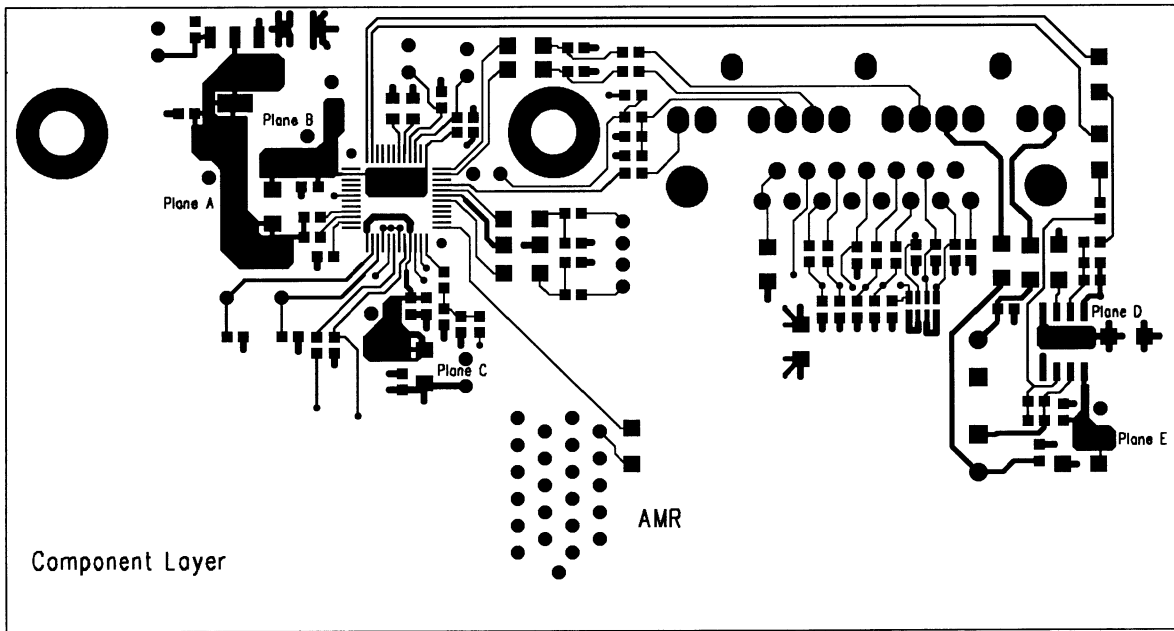
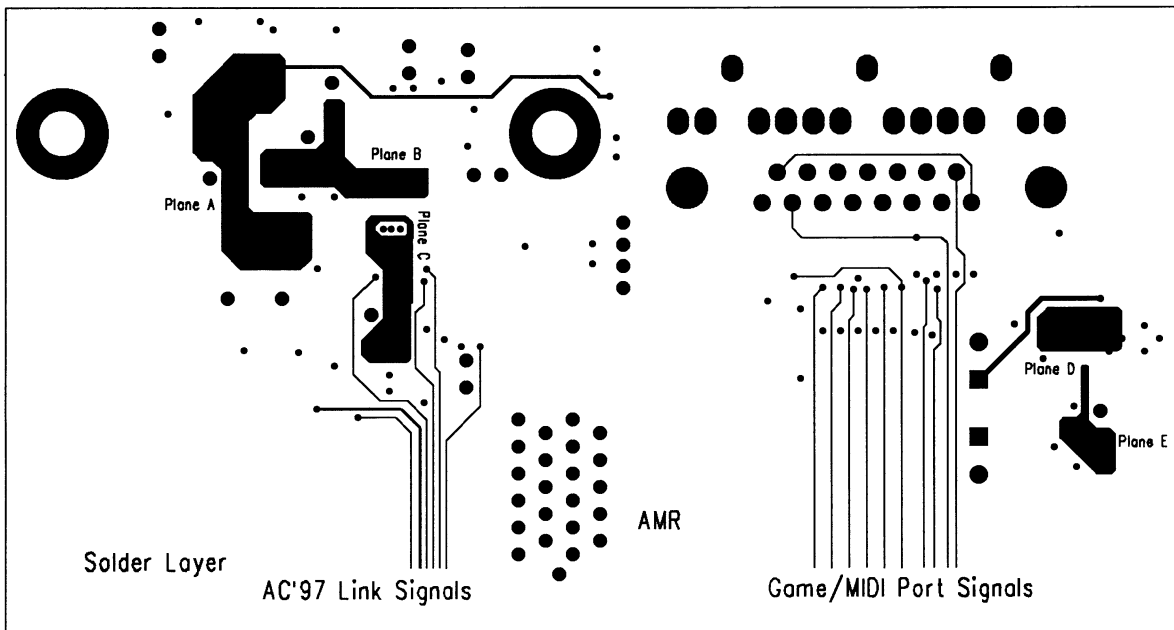

Figure B-5. Component Layer Layout Example
Figure B-6. Solder Layer Layout Example
Referring to Figure B-5, the AC'97 link signals should come in from the lower side of the audio codec to keep them far from the analog signals.
Referring to Figure B-6, the Game/MIDI signals should come in from the lower side of the Game/MIDI port to keep them far from other analog signals.
1. Refer to power planes A, B, C and D in Figure B-5 and Figure B-6 for AVCC5, AVDD5, DVDD5 and AVDD respectively.
2. Refer to analog ground planes in Figure 3 for GND_AUD, GND_LOUT and GND_MIDI and ground plane E for GND_LOUT in Figure B-5 and Figure B-6.